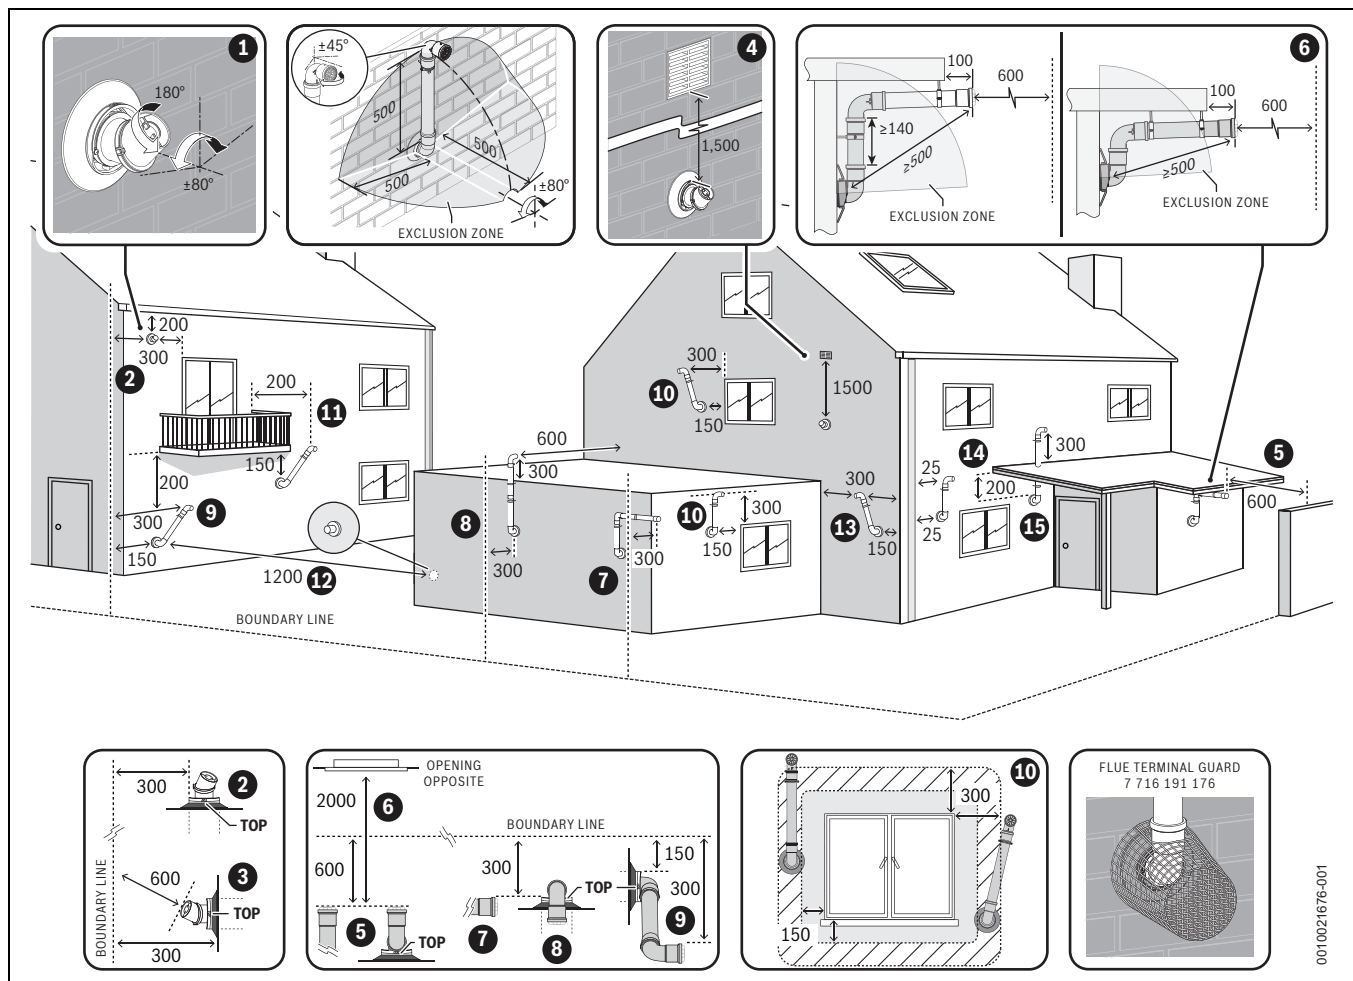

Fig. 33 Plume re-direct and plume management terminal positions
- ▶ Refer to “Horizontal flue terminal positions” for all concentric flue terminal positions unless the flue position is specified in figure 33 “Plume re-direct and plume management terminal positions”.
**Key to figure 33 - Plume re-direct terminal positions:**
**Key to figure 33 - Plume management terminal positions:**